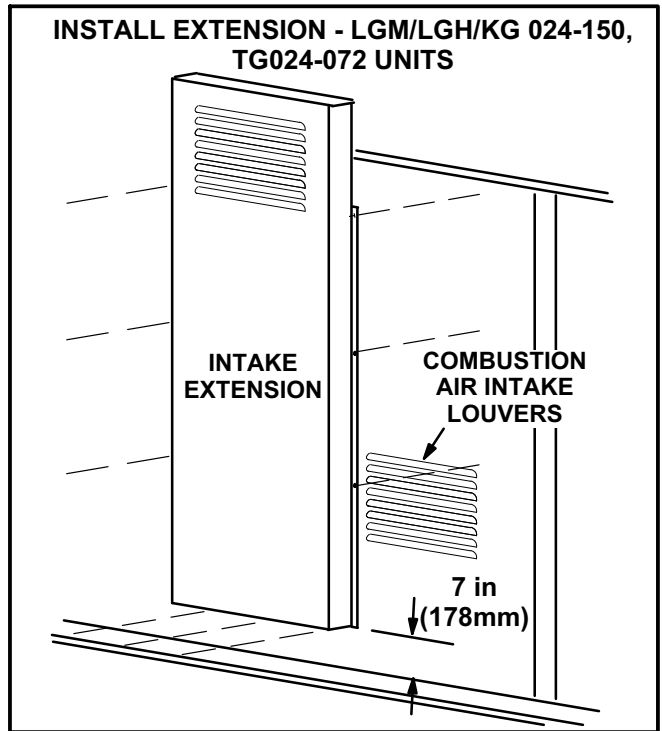

FIGURE 5
- 2- Install extension on unit. Position bottom of extension 7" (178mm) above bottom of heat section access panel. See figure 5.